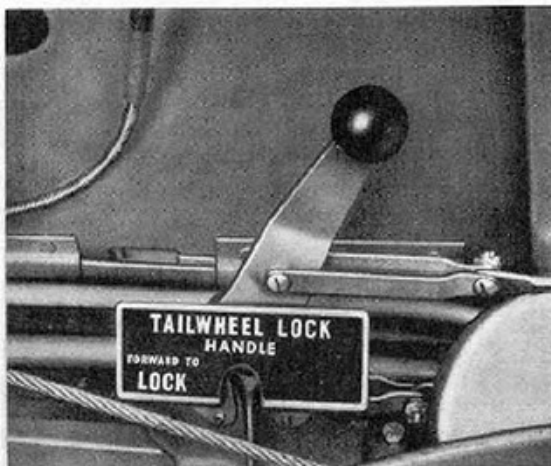

Figure 19—Tail Wheel Lock Control
**b. TAIL WHEEL.**—The tail wheel is a free swiveling, hydraulically retractable unit. A mechanical up-lock aids hydraulic pressure in retaining the gear in a retracted position, and an extension spring maintains a mechanical advantage built into the unit which holds it extended. The tail wheel may be locked in the fore-and-aft position by the control handle (figure 19) to the right of the cockpit seat.